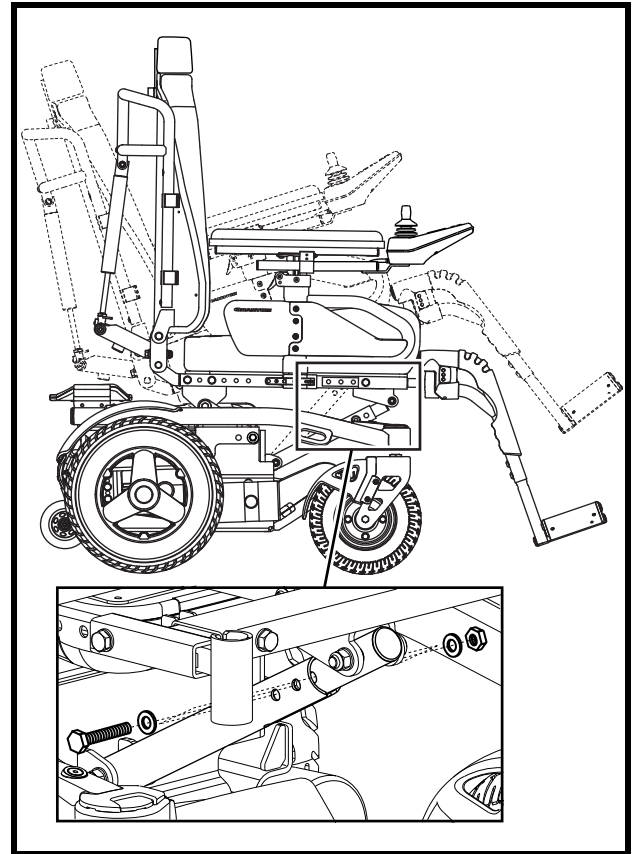

Figure 12. Seat Angle (Dump) Adjustment
2. Remove the seat angle adjustment bolt. See figure 12.